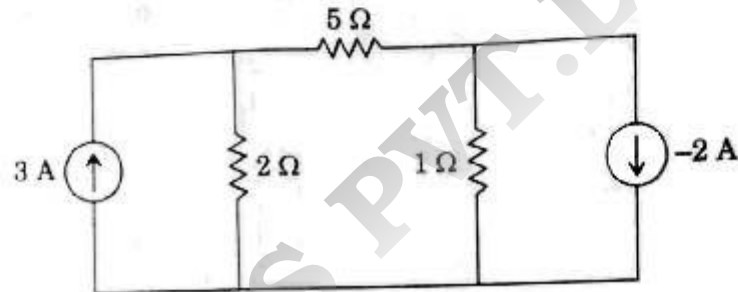

Figure 1
- (c) Determine the current through the $5\ \Omega$ resistor in the circuit of Figure 1.